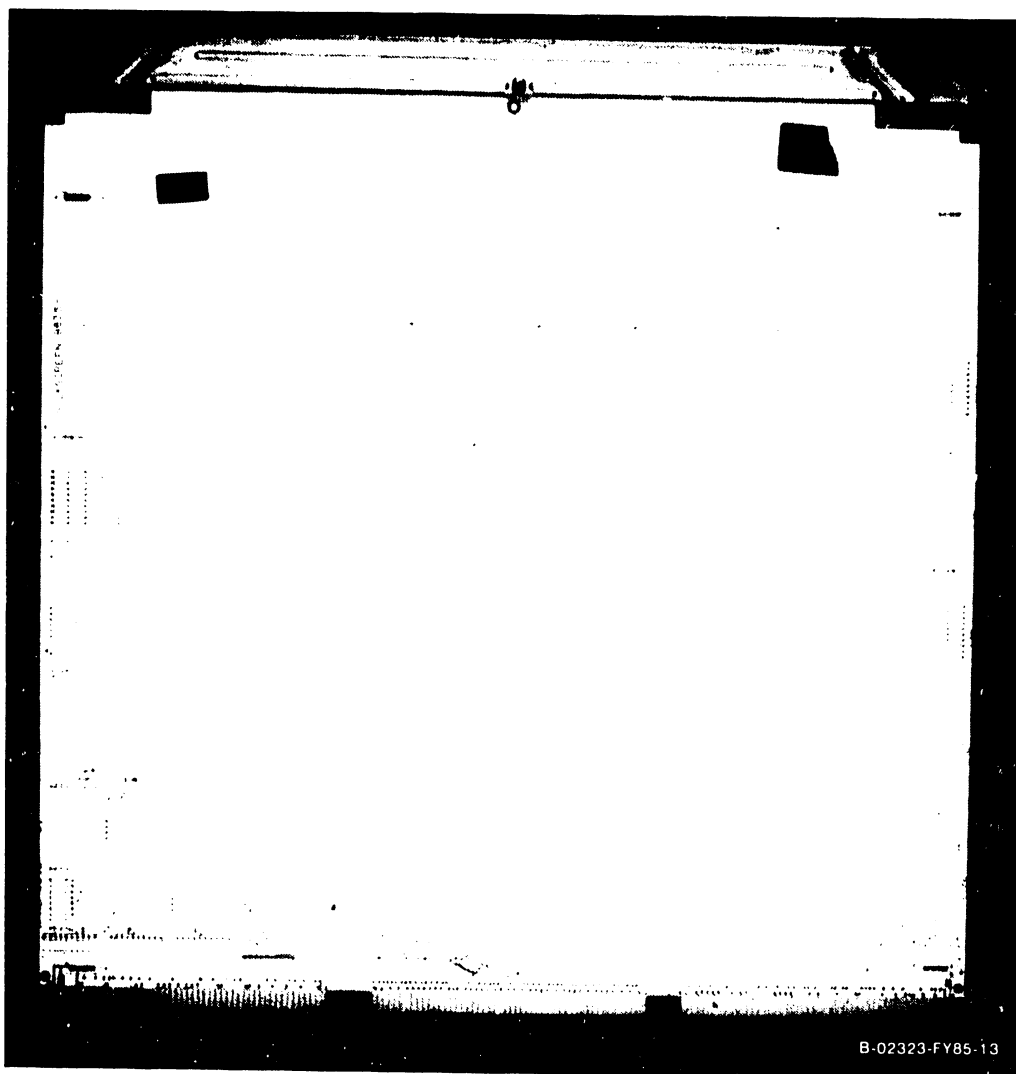

Figure 7-13. 210-8835 Support Control Unit
1. Remove the Support Control Unit (SCU) (figure 7-13) from backplane slot #5 in the manner described in 7.2.4.1. There are no cables, switches, or jumpers on the SCU.